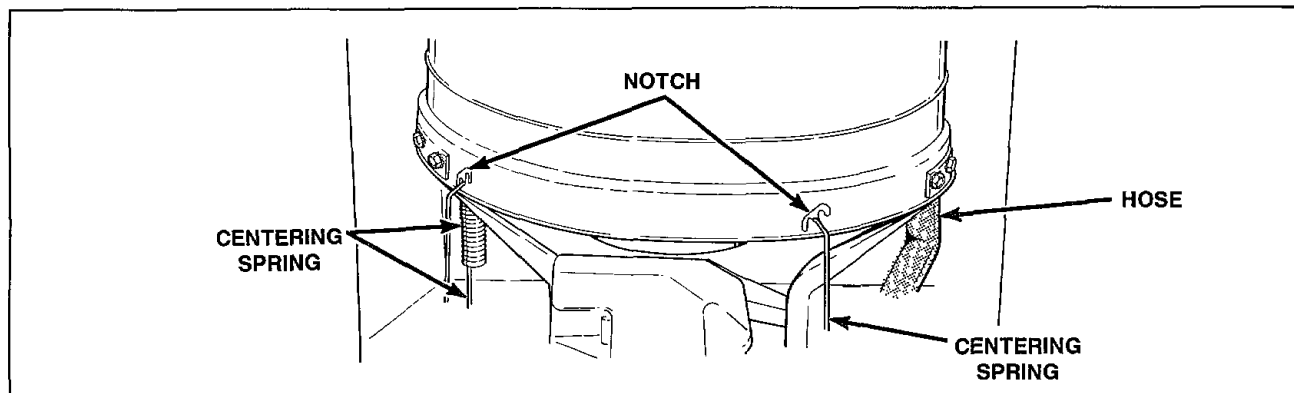

Figure 44
- n. Using the No. 229P4 Spring Hook Tool, unhook the five centering springs from lower edge of outer tub, *Figure 44*.